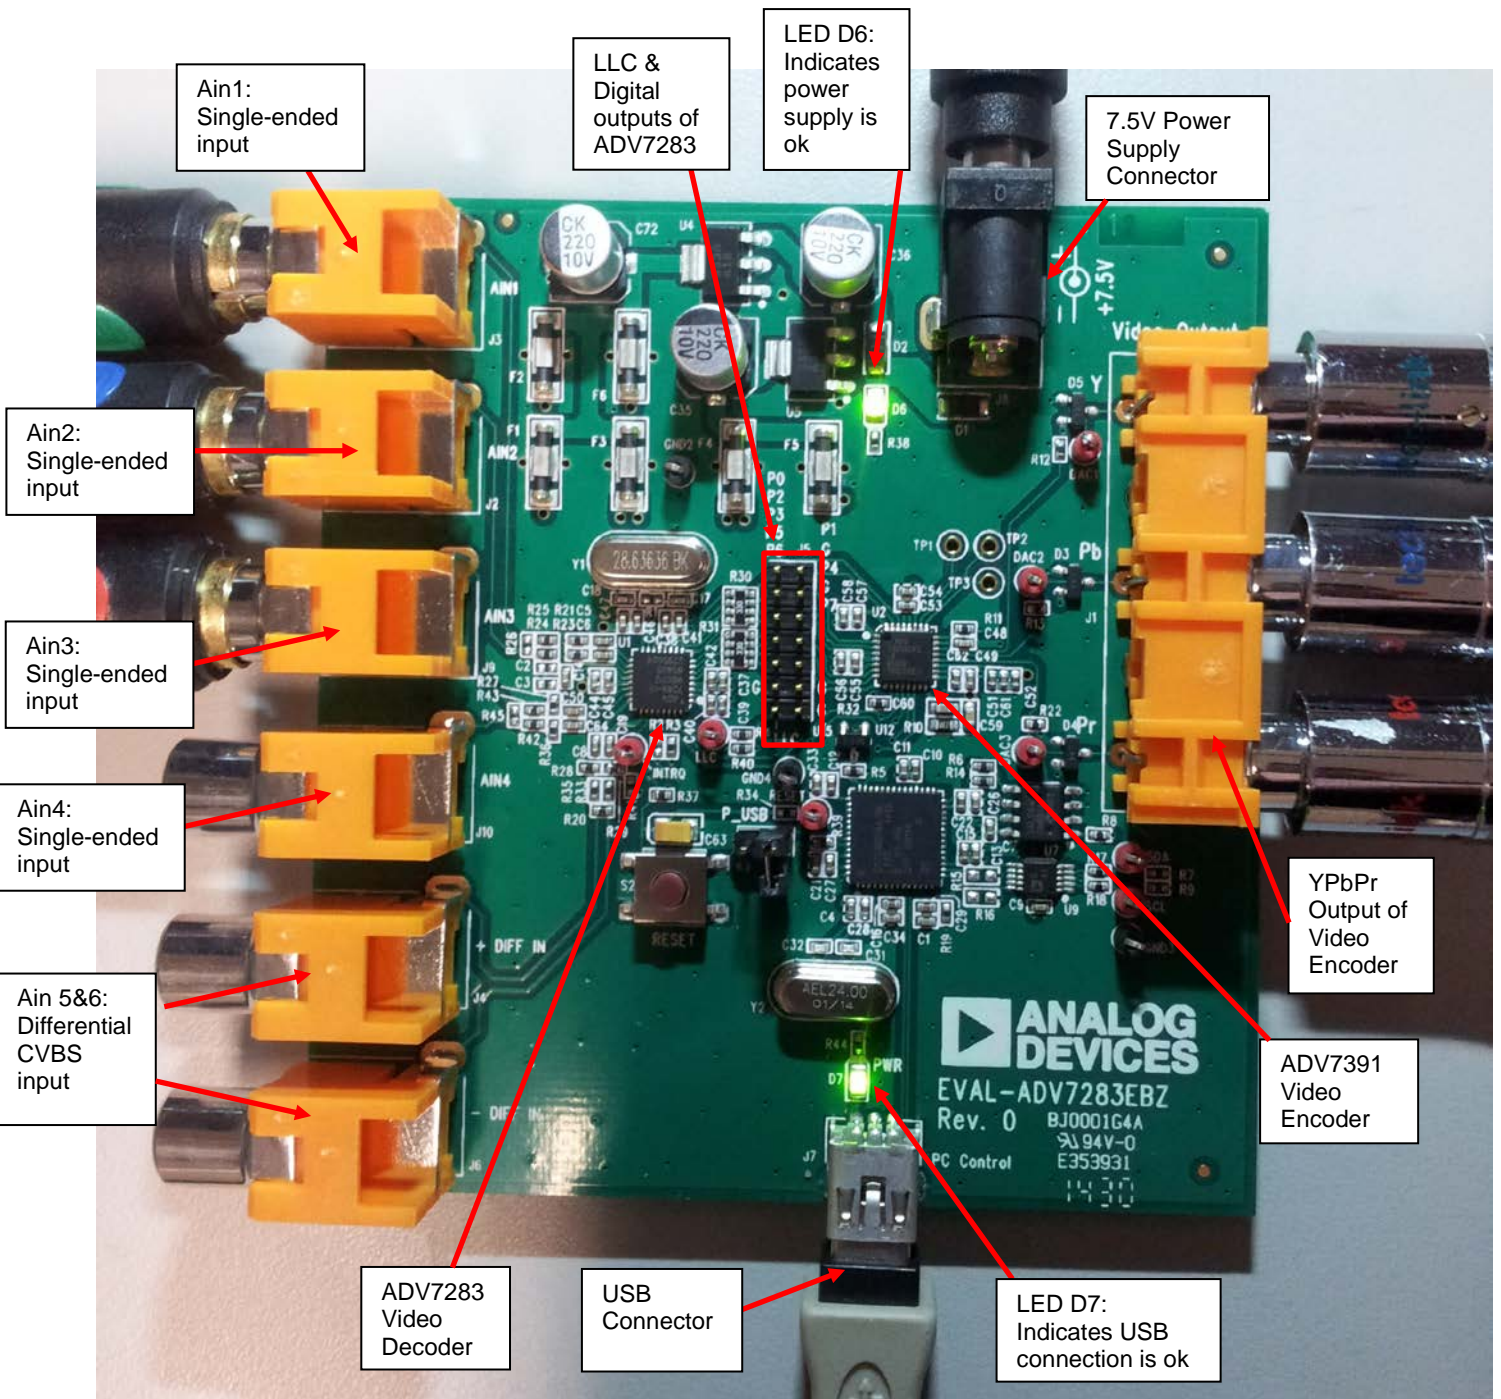

Figure 1. ADV7283 Evaluation Board
The digital output stream of the ADV7283 is fed to headers and into the ADV7391 video encoder (refer to Figure 1). The ADV7391 converts this digital stream into an analog YPbPr output. The analog YPrPb output from the ADV7391 is fed to the Video Output header of the evaluation board.
- Connect the 7.5 V supply cable to Jumper J8 on the ADV7283 evaluation board. When this is done correctly, LED D6 turns on (refer to Figure 1).
- Connect the other end of the USB cable to Jumper J7 of the ADV7283 evaluation board. When this is done correctly, LED D7 turns on (refer to Figure 1).
- The digital output of the ADV7283 can be probed with an oscilloscope or a digital grabbing device. The 8-bit pixel data and nominal 27MHz LLC are output to header J5. There is also a test point for the LLC pin. Refer to Figure 1.